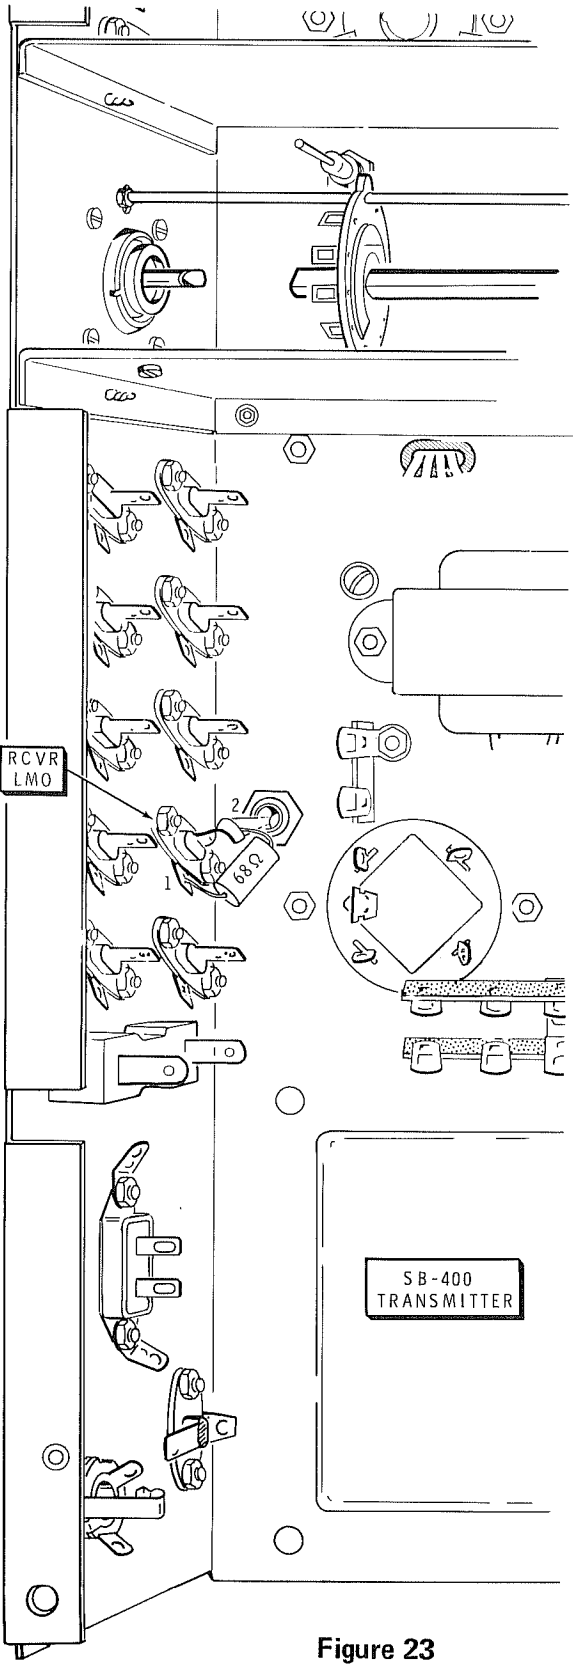

Figure 23
- () Locate the RCVR LMO phono socket on the rear panel. Refer to Figure 23 and connect a 68 Ω (blue-gray-black) resistor from lug 1 to lug 2. Solder both connections.